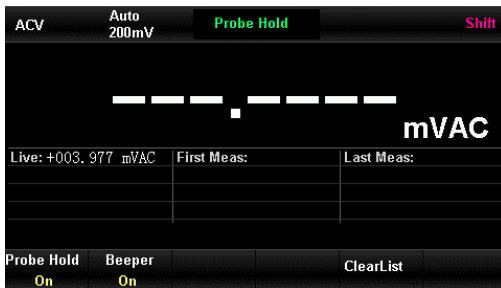

Figure 3-10 DCV Hold measurement
- 3) Press → to enter the interface of Hold measurement. The DC voltage will be recorded as Figure 3-10.